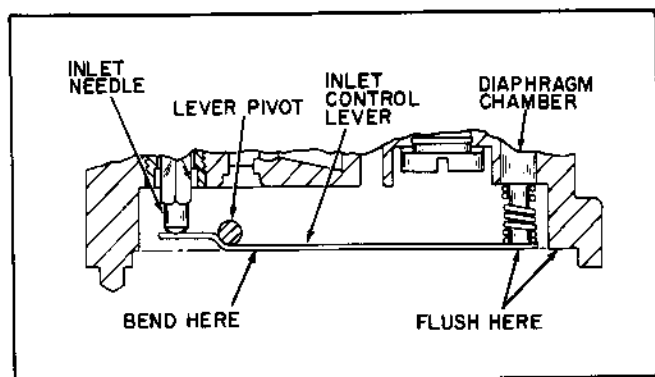

Figure 4-7. Checking Inlet Control Lever Position on Tillotson Diaphragm Type Carburetor
- (3) On diaphragm type carburetors, the inlet control lever (Fig. 4-7) must be properly formed to assure proper metering of inlet valve. When inlet needle is fully seated, inlet control lever must be flush with the inner edge of diaphragm chamber as shown in figure 4-7. If necessary, bend inlet control lever at point shown to correct measurement.